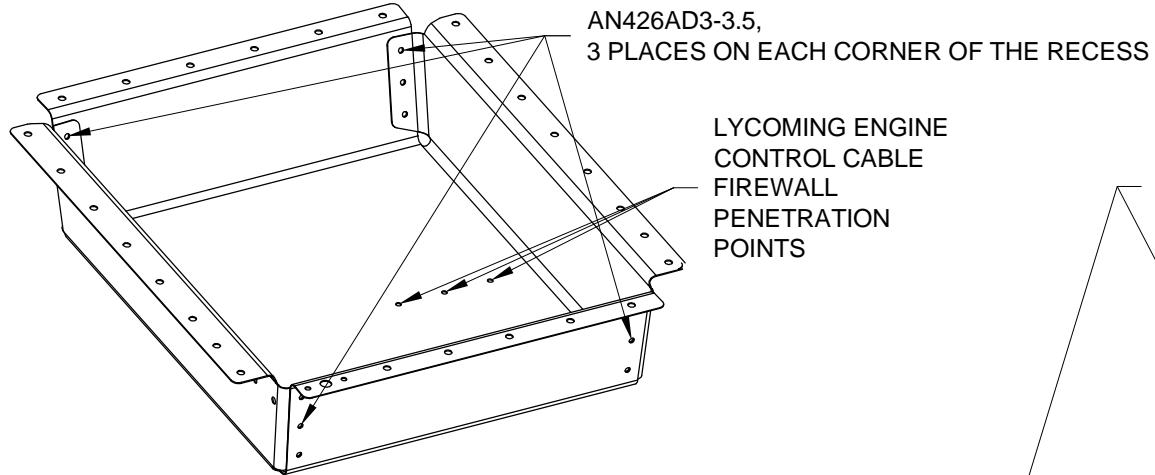

FIGURE 1: PREPARING THE RECESS
Step 3: Rivet the holes that attach the F-1001K Recess to itself as called out in Figure 1. If using a Lycoming engine enlarge the three control cable holes indicated in Figure 1 to 5/8 diameter. If not using a Lycoming engine final-drill and dimple these holes #40 then fill them with AN426AD3-3 rivets.
Step 5: Final-Drill #40 all the nutplate attach rivet holes. Final-Drill the screw holes for the two K1000-4 nutplates 1/4 diameter and the screw holes for the fourteen K1000-3 nutplates #12. Final-Drill #40 the eight holes common to the F-1001A Bulkhead and the F-6122-1 Tri-Gear Brake Bracket. Final-Drill #30 all the remaining holes common between the bulkhead and the parts clecoed together in Step 4. Final-Drill #30 all the holes common to the F-1001J-L and -R Longerons and the F-1001D and F-1001M Side Angles. Final-Drill #30 all remaining open holes that attach the oil cooler (see Page 27-5 Figure 1) and the open holes for the upper fwd fuse ribs, see Figure 2.